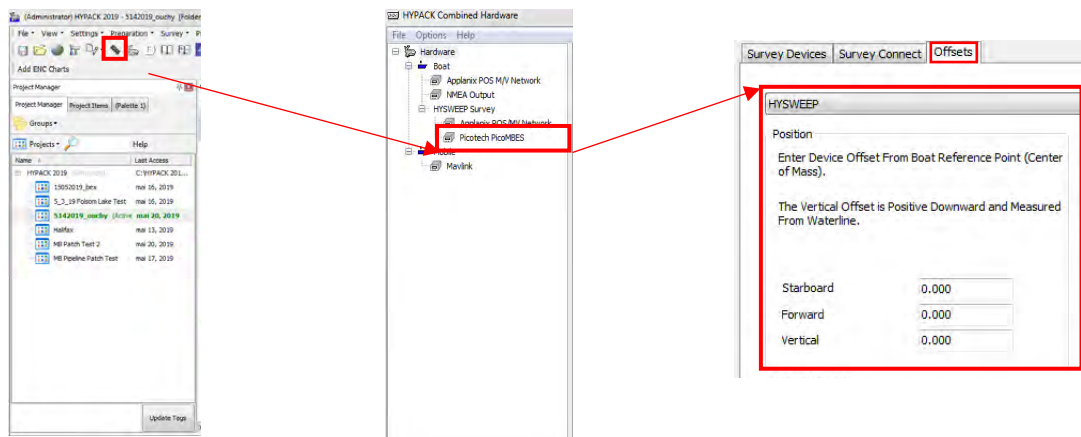

Figure 23: Multibeam offsets in HypACK
- In HypACK measure and enter the multibeam offsets. The values are entered on the "Hardware setup" ("Picotech PicoMBES" device) under the "Offsets" tab (Figure 23).
- ⇒ Check that the offsets between the primary GPS antenna and the MRU are correct. If not, manually insert them (Figure 23):